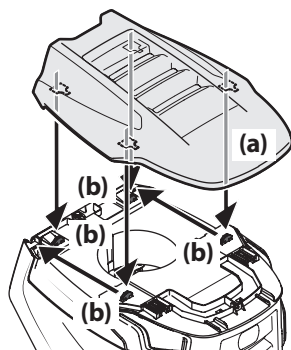

Figure 6
- To install the snap-on hood topper (a), line up the holes on the hood topper (a) with the tabs (b) in the hood frame as shown in Figure 6.